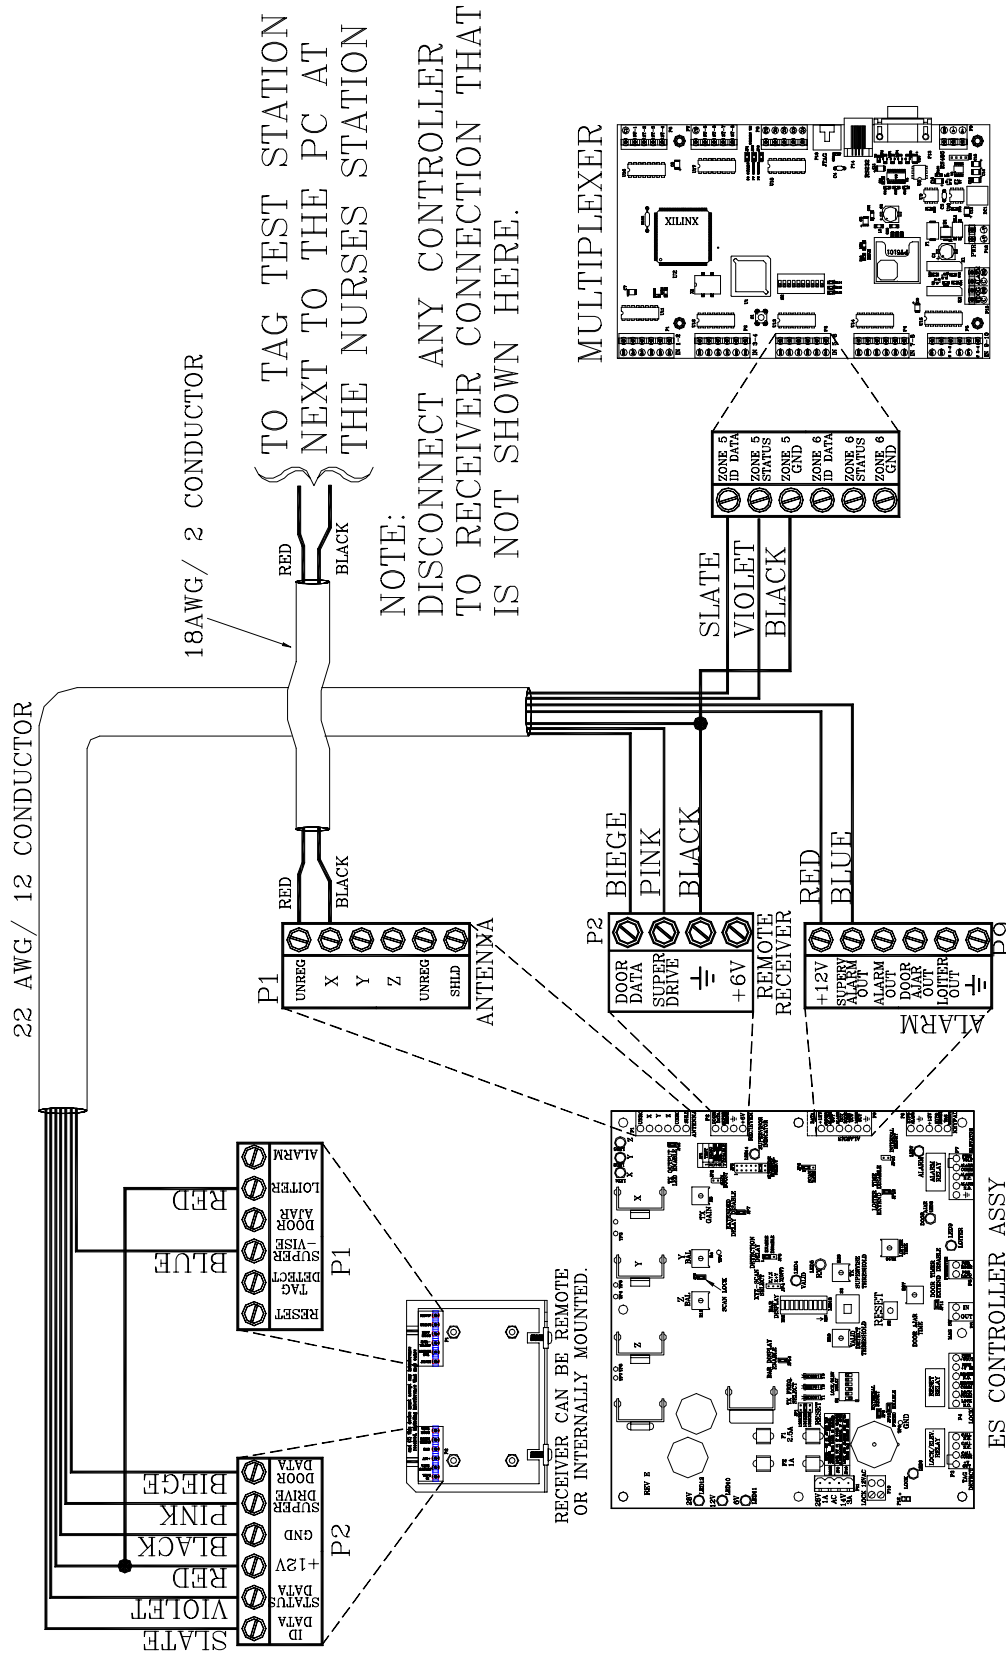

Figure 20.2 Connecting a TTS – Part 1/2
3. Note that TTS zones are for Tag assignment purposes only; you **do not** wire the other positions of the Receiver to the Controller. Disconnect any signal not shown (see Figure 20.2).